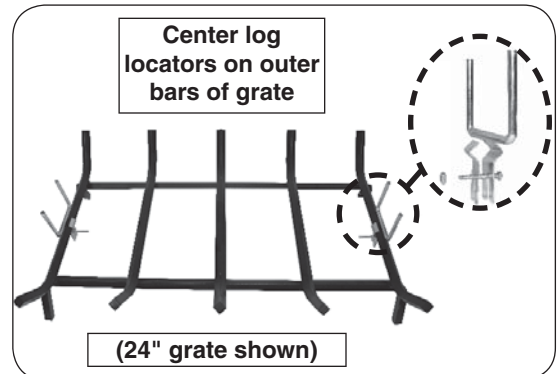

Fig. 18-4 Position grate
2. Position the grate over the burner pan (in fireplace). Ensure the assembly is centered from left to right. See Fig. 18-4.